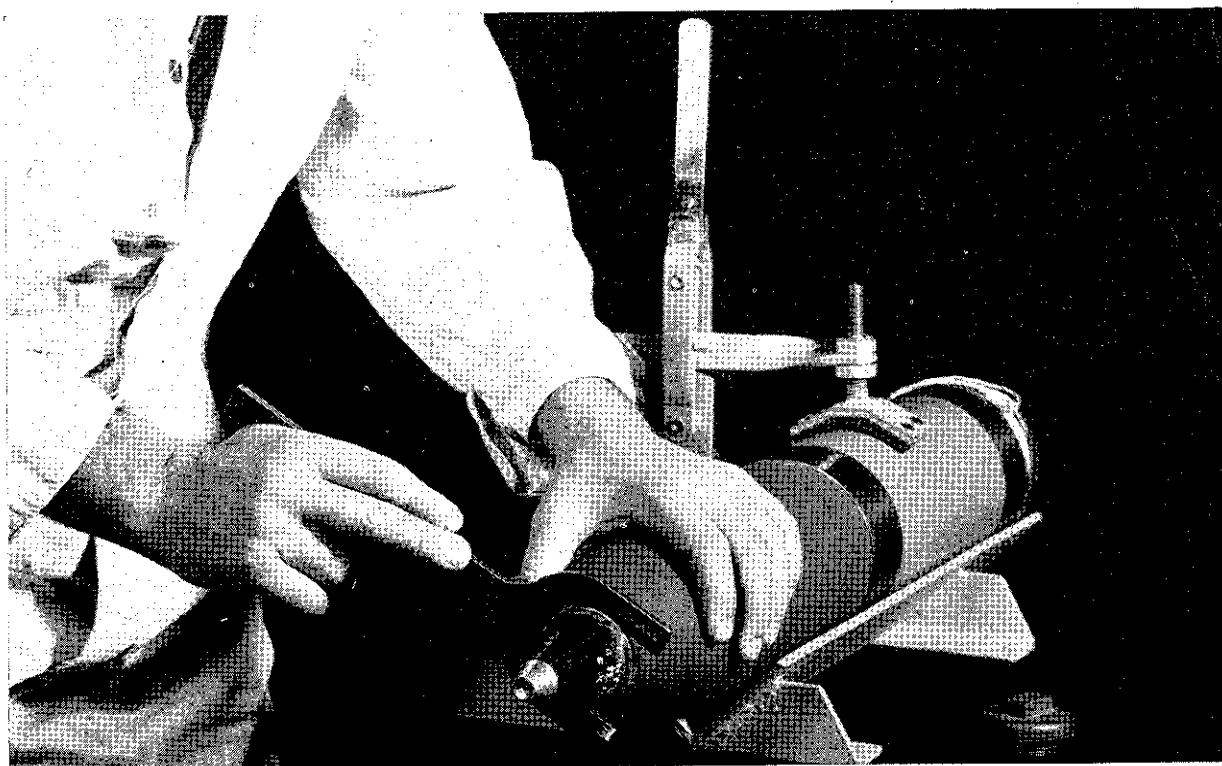

Figure 19.—Assembly of Fuze and Head With Special Fuze Wrench.
11. Screw the nose fuze wrench-tight all the way into the nose of the head as shown in figure 19. A fuze wrench for this purpose is supplied in each box of fuzes.